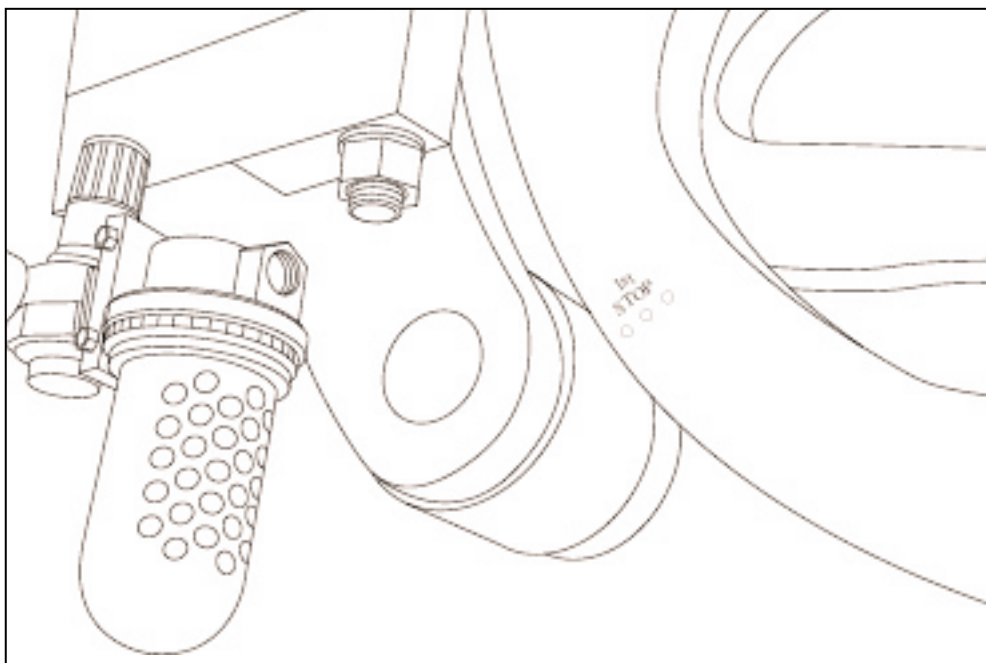
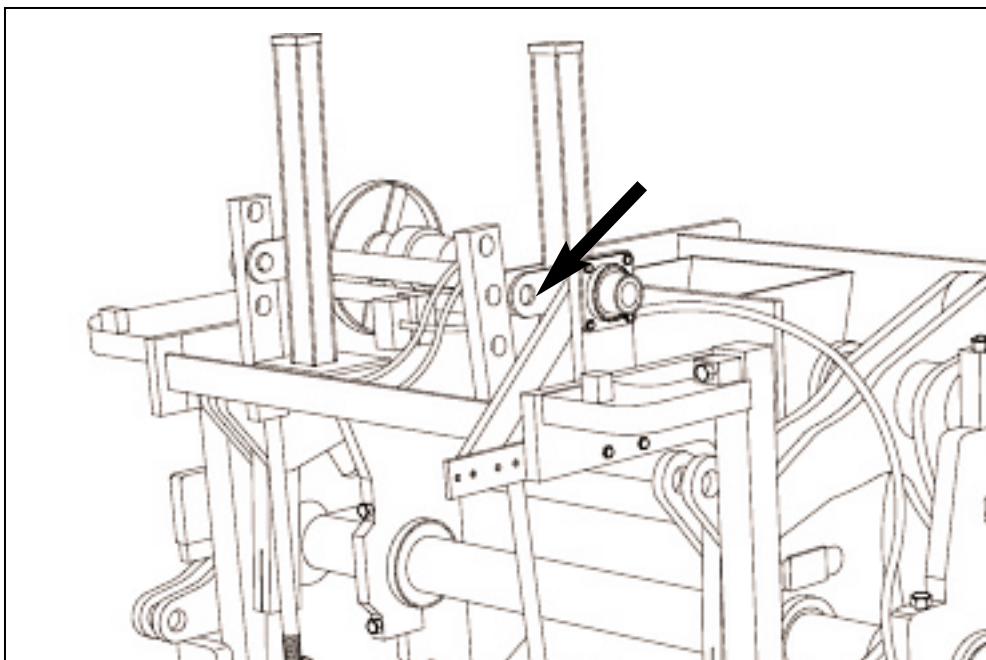

Figure 4.3 "FIRST STOP" (R.H. side of machine).
Figure 4.4 DISCONNECTING THE 2 AUTOFEED LINKAGES.
4.1.2 Run machine to "first stop" (see figure 4.3.) Turn off clutch and drive motor, and manually lower the auto-feed to its lowest position. Disconnect the two auto-feed linkages at the top (see figure 4.4).